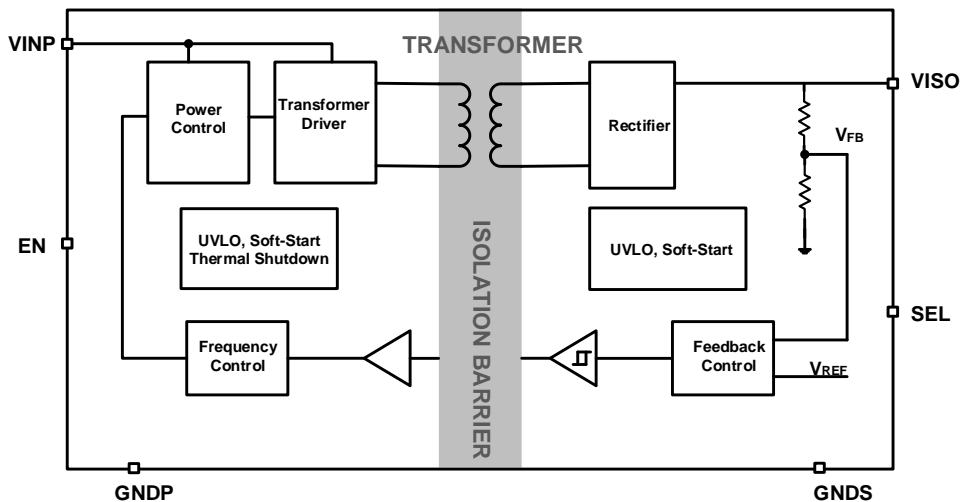

Figure 8-1. Functional Block Diagrams
The CA-IS3115AW is a family of complete isolated DC-DC converters designed to provide isolated power with up to 1.5W output power across a 5kVRMS isolation barrier. The devices operate over 4.5V to 5.5V input voltage range and use a proprietary control mechanism. The input supply  $V_{INP}$  is provided to the primary power controller that switches the power stage connected to the integrated transformer. Power is transferred to the secondary side and regulated to a fixed output voltage set by the SEL pin. The soft-start feature allows to reduce input inrush current and avoid output overshoot. These devices also incorporate an output enable (EN) control and undervoltage lockout(UVLO) function that allows the user to turn on the part at the desired input-voltage level. Figure 8-1 shows the CA-IS3115AW’s functional block diagram. Connect the EN pin to  $V_{INP}$  or force this pin high to turn on the DC-DC converter. Force this pin low to disable the device and enter low-current shutdown mode. These devices offer a ready-made, reliable, easy-to-use solution and allow users save PCB space and reduce design time for the popular 5V, 3.3V power supply systems.